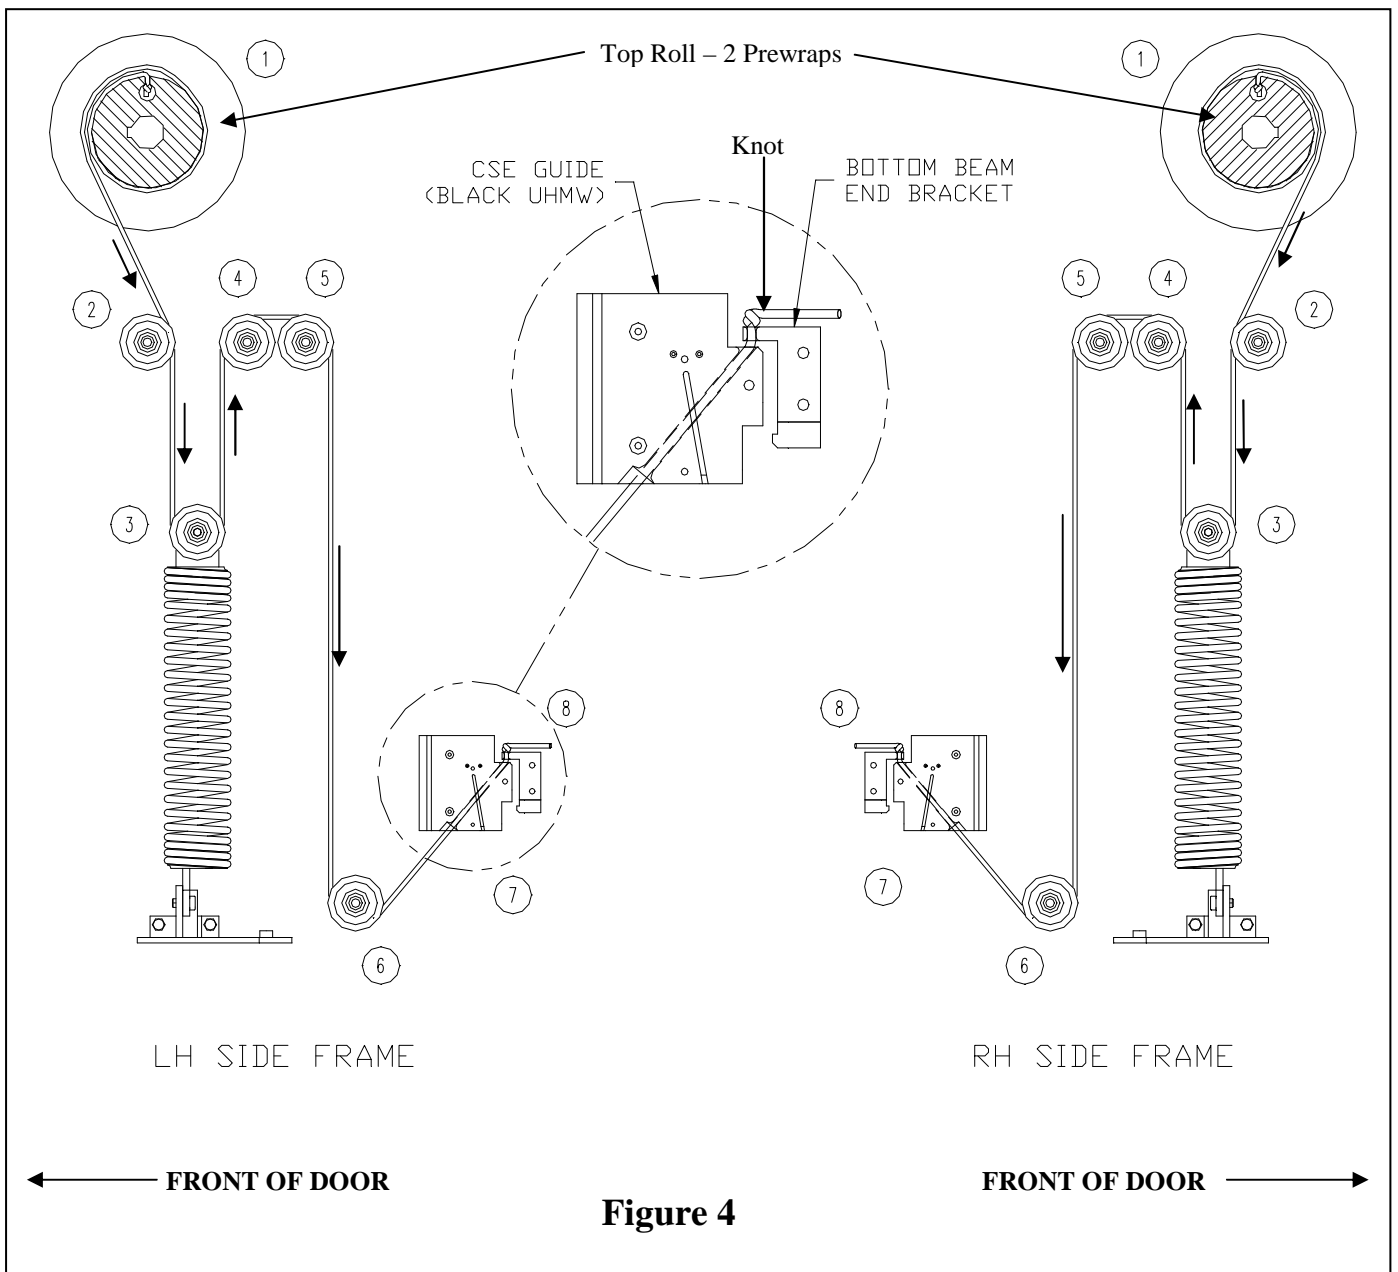

Figure 4
Step 10. Attach and place 2 pre-wraps of tensioning rope on both rope pulleys and allow rope to drape down over the front of the side columns. (**Figure 4**)
Step 12. Run the tensioning rope through the appropriate pulleys in the counterbalance system corresponding to the drawing placed inside the side columns. Ensure the rope is run through the sliding part of the CSE block. **(Figure 4)** Run the rope through the hole in the aluminum bracket on bottom profile.
Step 14. Using a come-a-long or similar pulling device, stretch the springs to the horizontal arrows marked on the diagrams located on the side column covers. Remove slack from the tensioning rope and secure rope in place by tying a knot in it **(Figure 4)**.